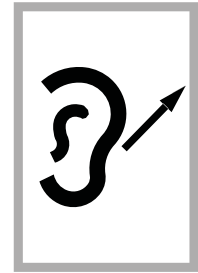

Figure 6
6. When using the thermometer on individuals over the age of 1, pull the ear back making sure the sensor faces the eardrum. (See Figure 6)